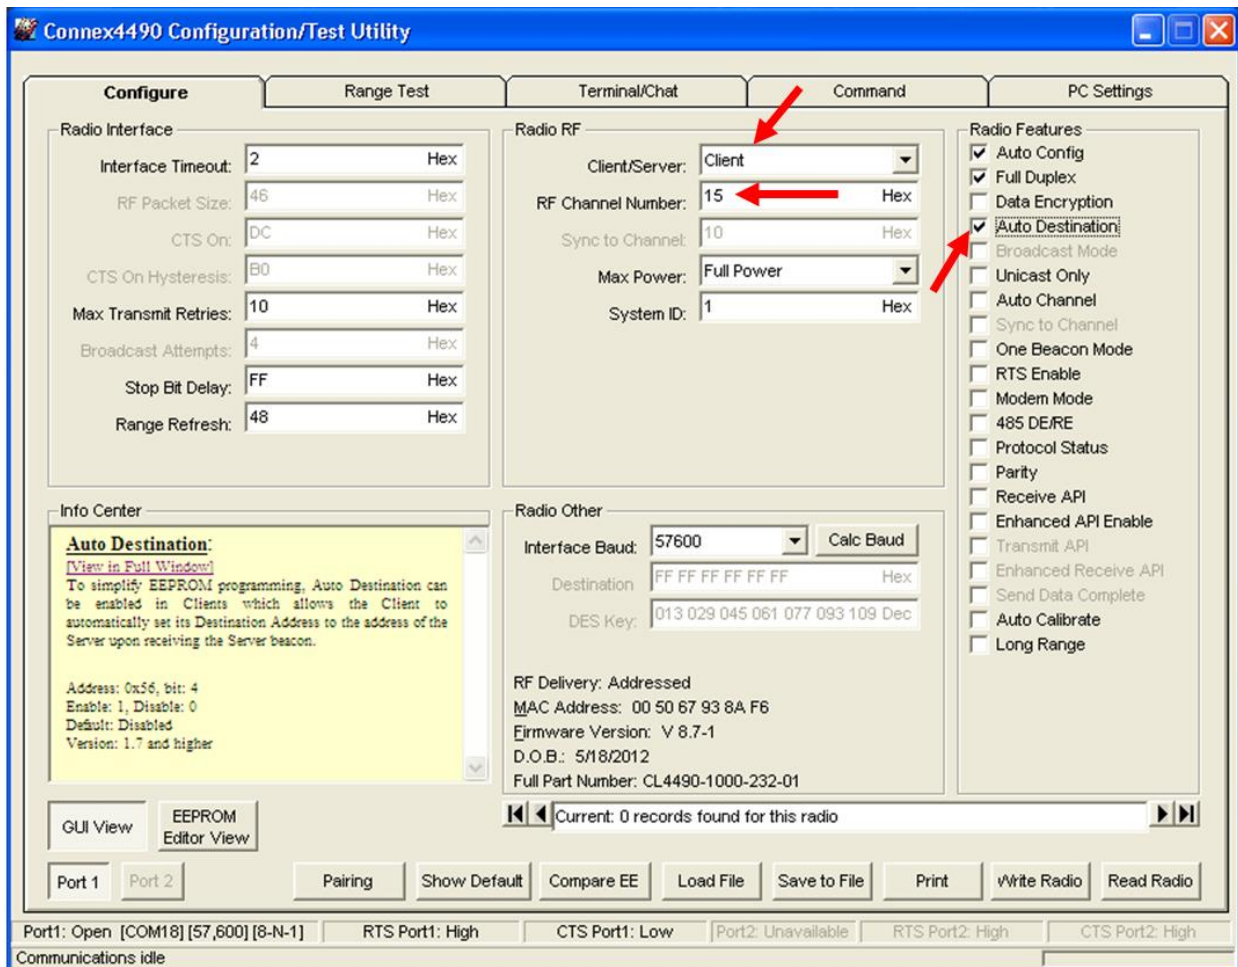

Figure 14: Client settings
- Configure the radios that will communicate with server #2 as *Client* and *Auto Destination* and with the same RF Channel Number as server #2 (Figure 14). Click **Write Radio** to write the changes to the radios EEPROM.